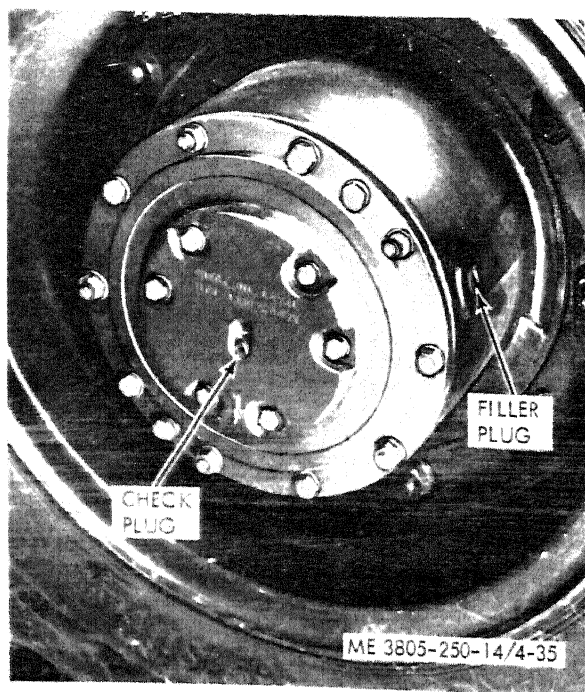

Figure 4-35. Planetary service.
b. Planetary Service. Move the loader until the arrow on the planetary cover (fig. 4-35) points to the ground. Remove the oil level check plug. Oil should run out the opening. If the level is low, add oil as necessary. Refer to the Lubrication Order for the correct lubricant. Planetary capacity is 6½ quarts.